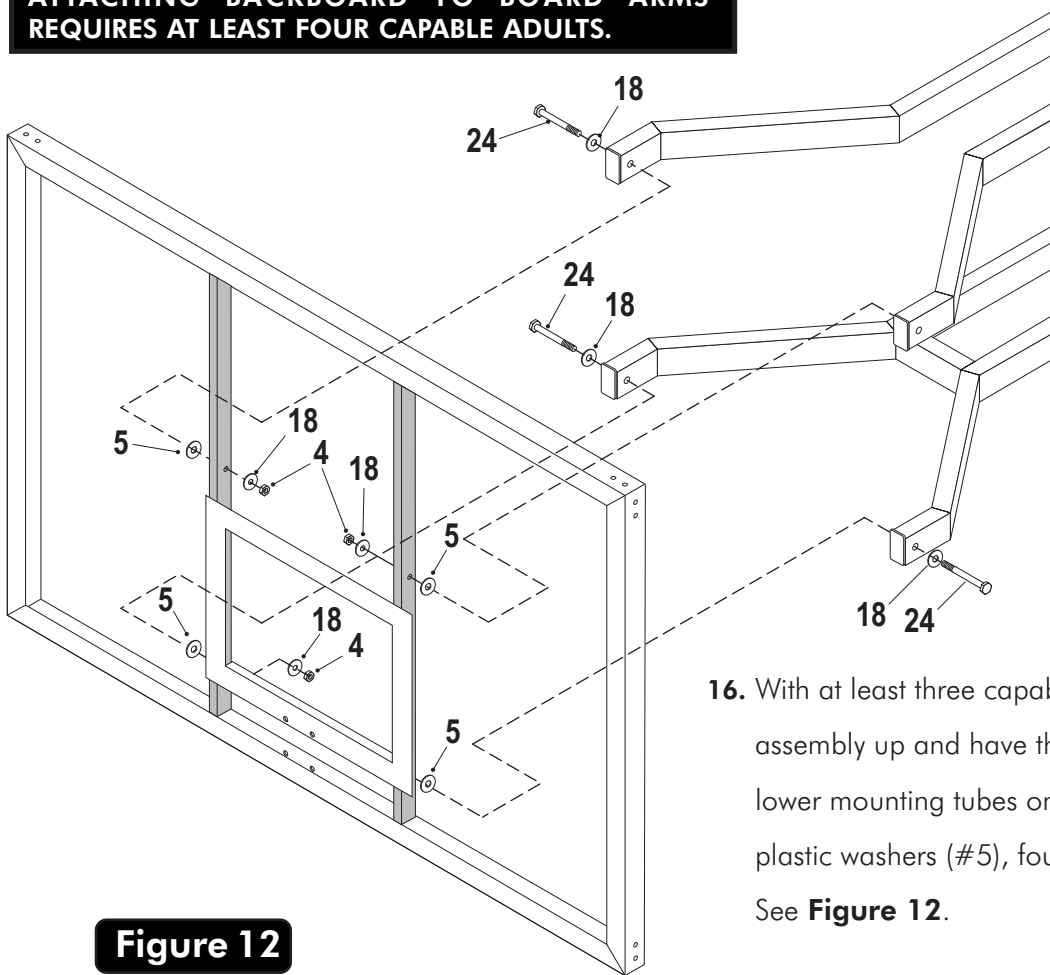

Figure 12
16. With at least three capable people, raise the backboard assembly up and have the fourth attach Lower Board Arms to lower mounting tubes on backboard using two bolts (#24), two plastic washers (#5), four washers (#18) and two lock nuts (#4). See **Figure 12**.
17. Attach Upper Board Arms to upper mounting tubes on backboard using two bolts (#24), two plastic washers (#5), four washers (#18) and two lock nuts (#4). See **Figure 12**.